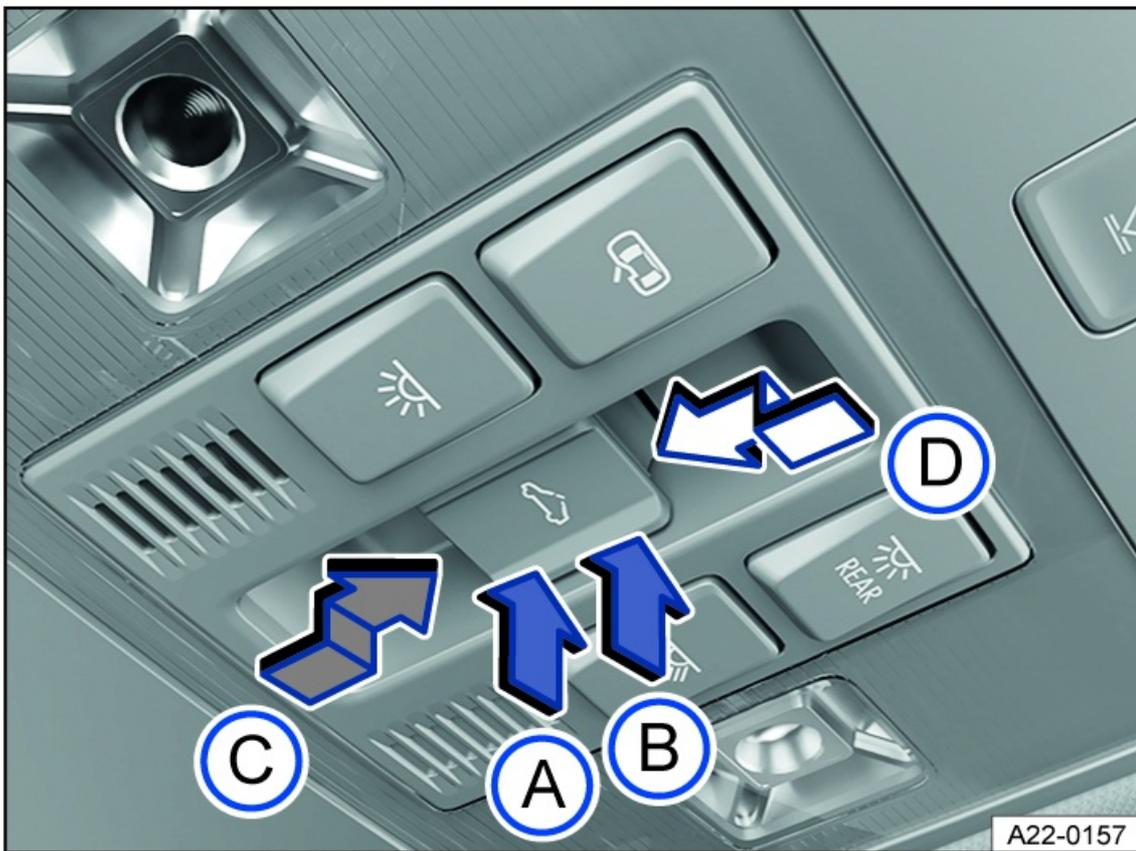

Fig. 62 In the headliner: sunroof button.
- Manual process: press the button until the first level is reached *fig. 62*.
- Automatic process: press the button until the second level is reached *fig. 62*.
- Automatic process up to comfort position: press the button until the second level is reached *fig. 62*.
1. Press the *fig. 62* or *fig. 62* button again.